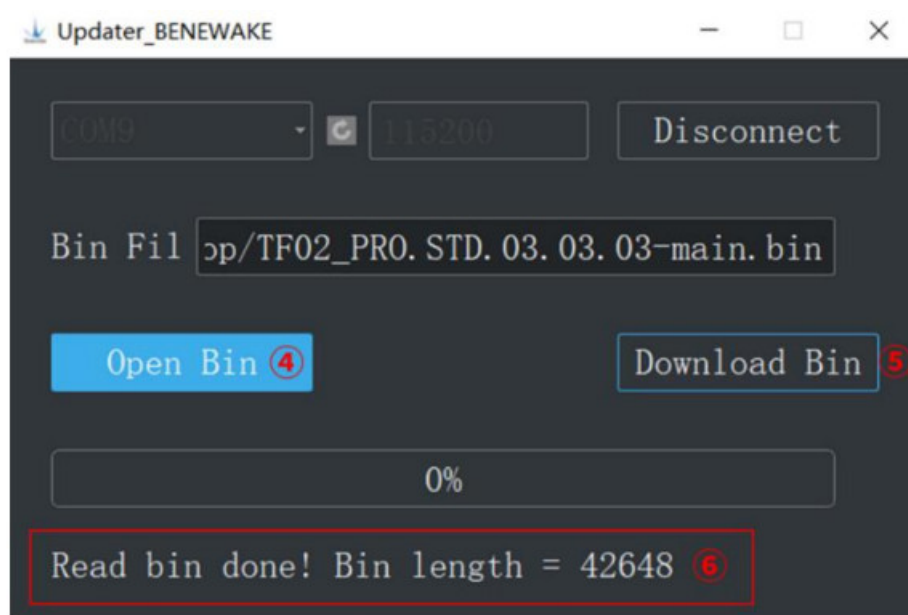

Figure 6-2 Upload firmware file
2. Click "4 Open Bin" to choose the updating firmware, the message "@Read bin done" will be displayed after the file is uploaded. Then click "5 Download Bin" to start upgrading. As shown in Figure 6-2.